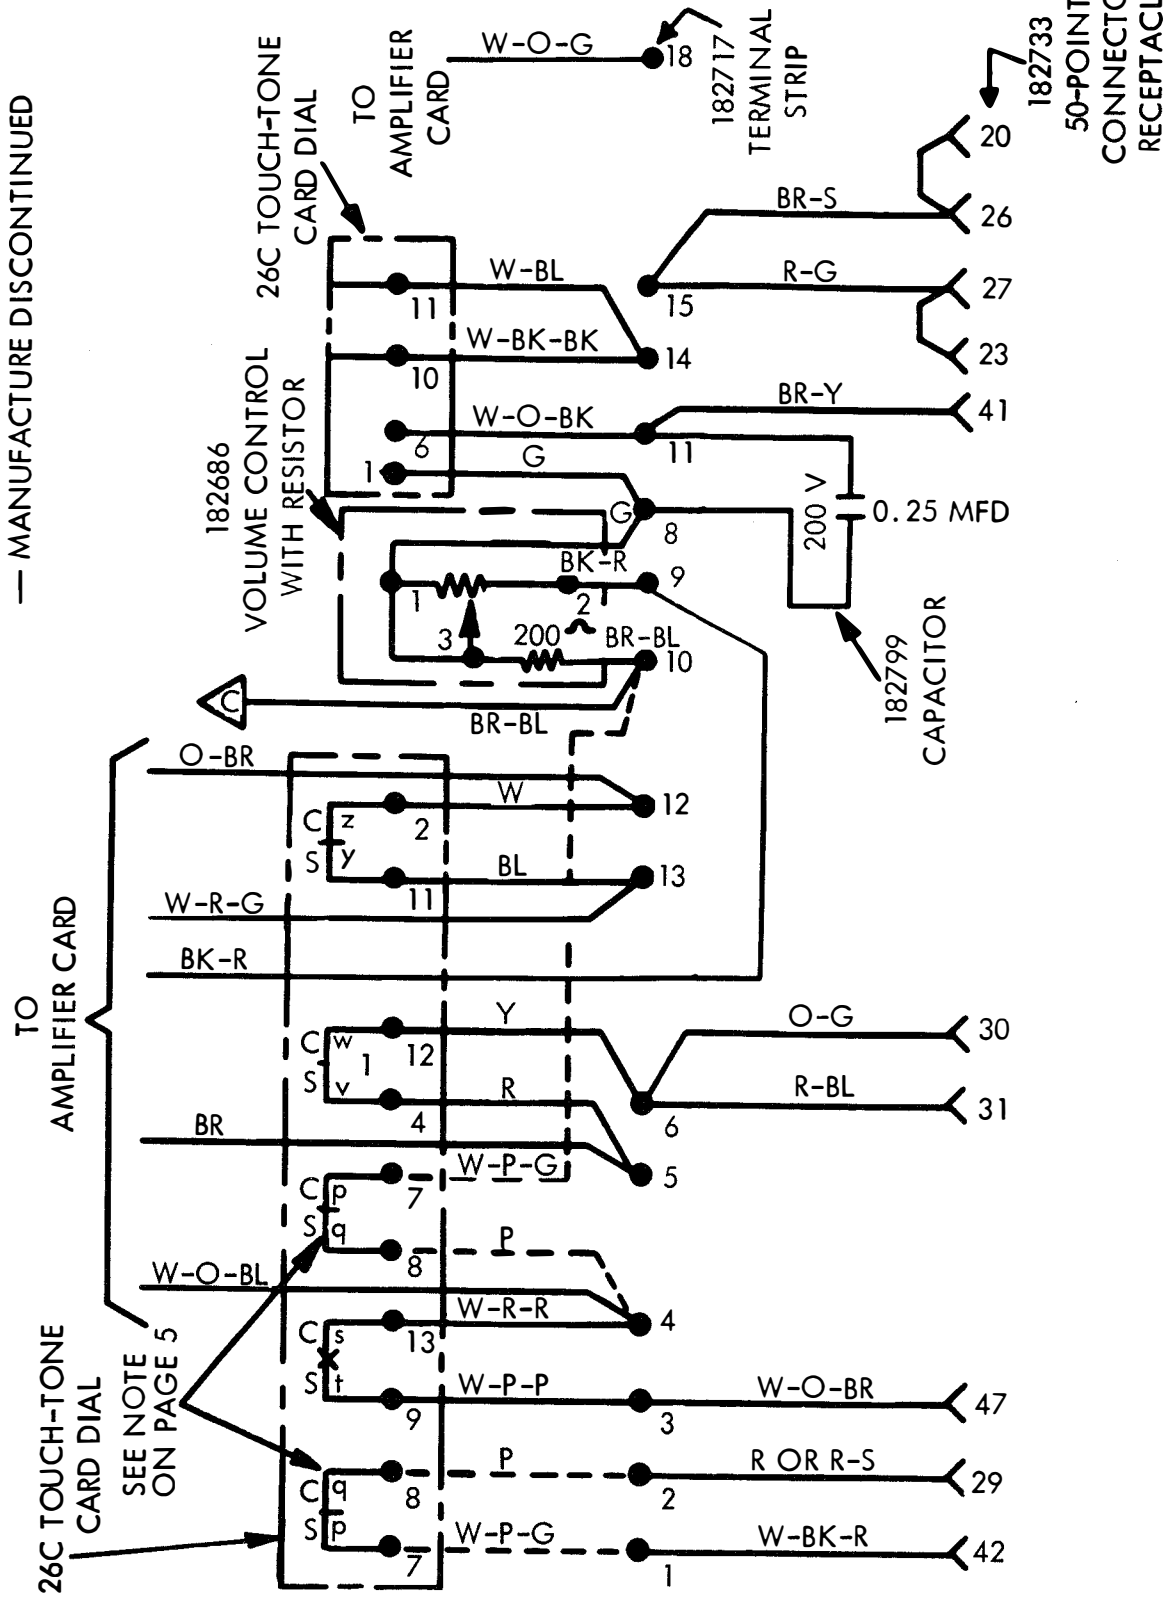

Figure 1 - Touch-Tone Card Dialer Connections
- 2.01 Remove the faceplate by removing the screw at each end of the faceplate. Lift the front and back of the faceplate simultaneously and place aside. Retain the screws. For the later model 35 cabinet, only the back screw must be removed to take off the faceplate. (For installation information, refer to Figures 1, 2, 3, 4, and 5.)
- 2.06 Assemble card dial assembly 182621 (Figures 1, 2, 3, and 4) to plate 182725 using two screws 87993 and lockwashers 124177.
- 2.08 Make the necessary wire changes on terminal strip 182717, and connect the dialer, potentiometer 182686, and the capacitor 182799 wires to the proper terminals of the terminal strip 182717. Tighten all terminal screws. Refer to Figures 1, 2, and 3.